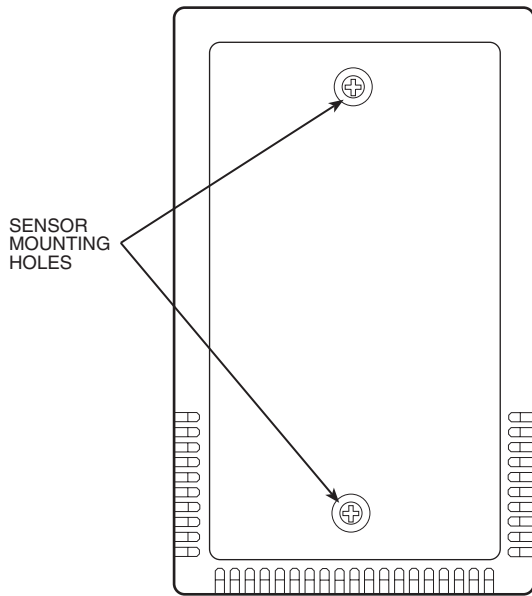

Fig. 1 — Remote Temperature Sensor Installation
1. Place the remote temperature sensor wall plate on the wall. Mark the mounting screw holes on the wall through the holes in the wall plate. See Fig. 1.